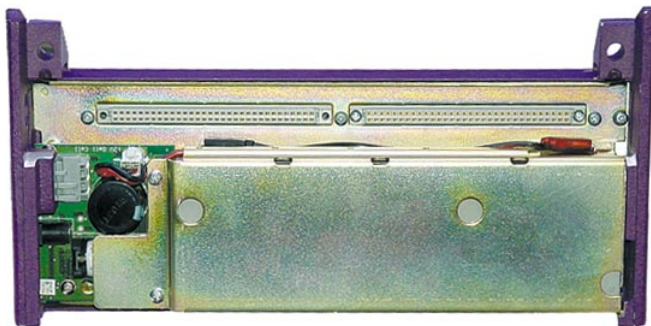

FIGURE 146 Ready for jumper insertion
- 2 Place the top half of the DT800 upside-down in front of you as in Figure 146.